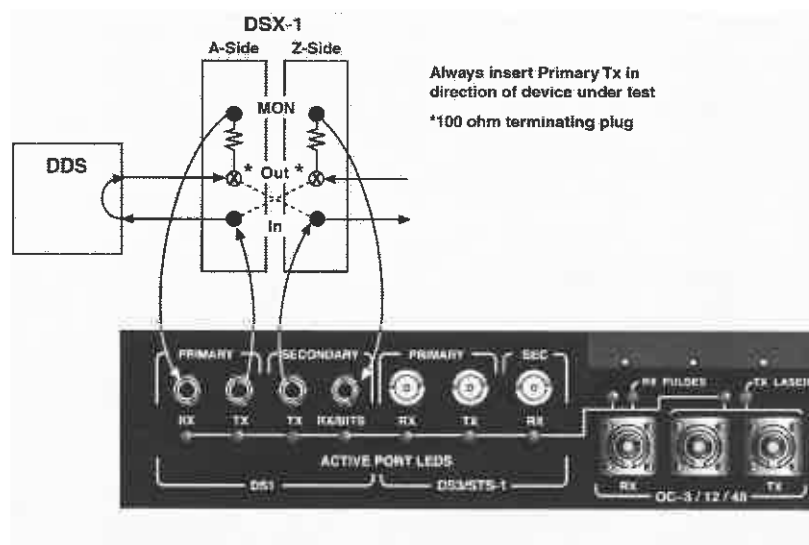

Figure 28 — DDS Drop and Insert setup
- 3 Connect a cable from the PRIMARY TX jack to the appropriate DSX-1 A-Side (IN) jack, which is the same side of the DSX as the PRIMARY RX (see Figure 28 on page 76).
- 5 Connect a cable from the SECONDARY TX jack to the appropriate DSX-1 Z-Side (IN) jack on the same side of the DSX-1 as the SECONDARY RX (see Figure 28 on page 76).
Figure 28 diagram is a sample depiction of cable connections from the DSX-1 panel to the inputs on the 2310 for DDS Drop and Insert testing.